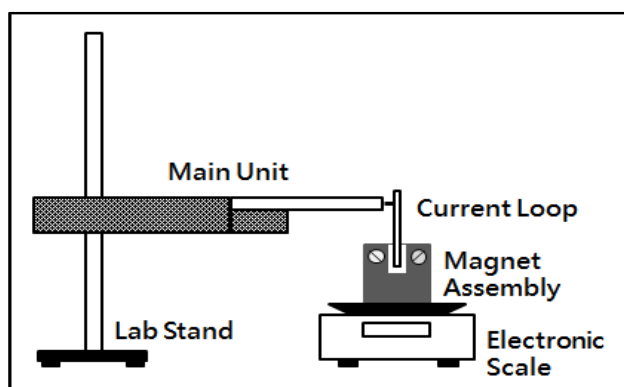

Figure 2. Schematic of experimental setup I.
1. Begin by assembling the experiment as shown in figure 2.